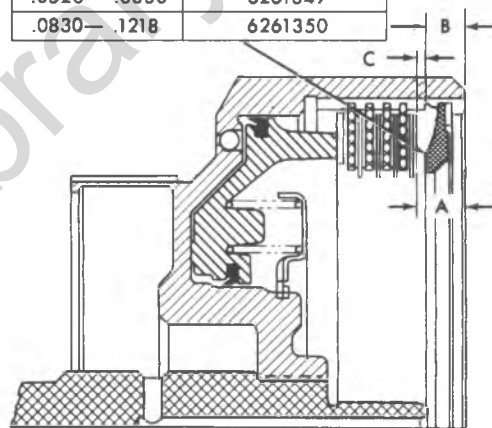

Figure 7A5-68 Determining Selective Fit for Forward Clutch Pressure Plate
4. Inspect clutch housing for wear, scoring, open oil passages and free operation of exhaust check (Figure 7A5-66).